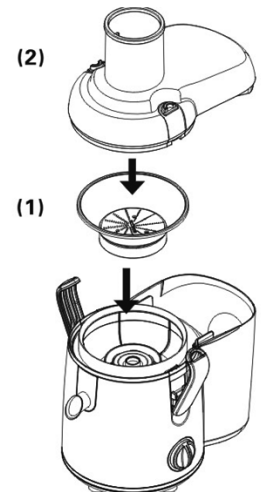

Fig. 3.
- Before using it, you must check the filter; if it is found to have cracks or to be damaged, the juicer shall not be used, and please phone the KingClean’s national unified customer-servicing hot-line to get in touch with the company, or to get in touch with our local after-sale service center. Put the filter into the juice collector, and rotate it to make sure that it is placed to its position fig.3 (1). Ensure that the filter has been cramped in the joint (a sound of click is heard).
- Hold the upper cover with the hand, and put it to its position from above the filter (2).